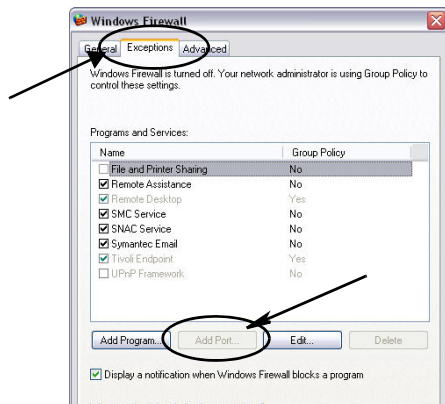

FIG. 34
2. If not already selected, click “Exceptions Tab to display contents (FIG. 34).
3. Click “Add Port” button (FIG. 34).